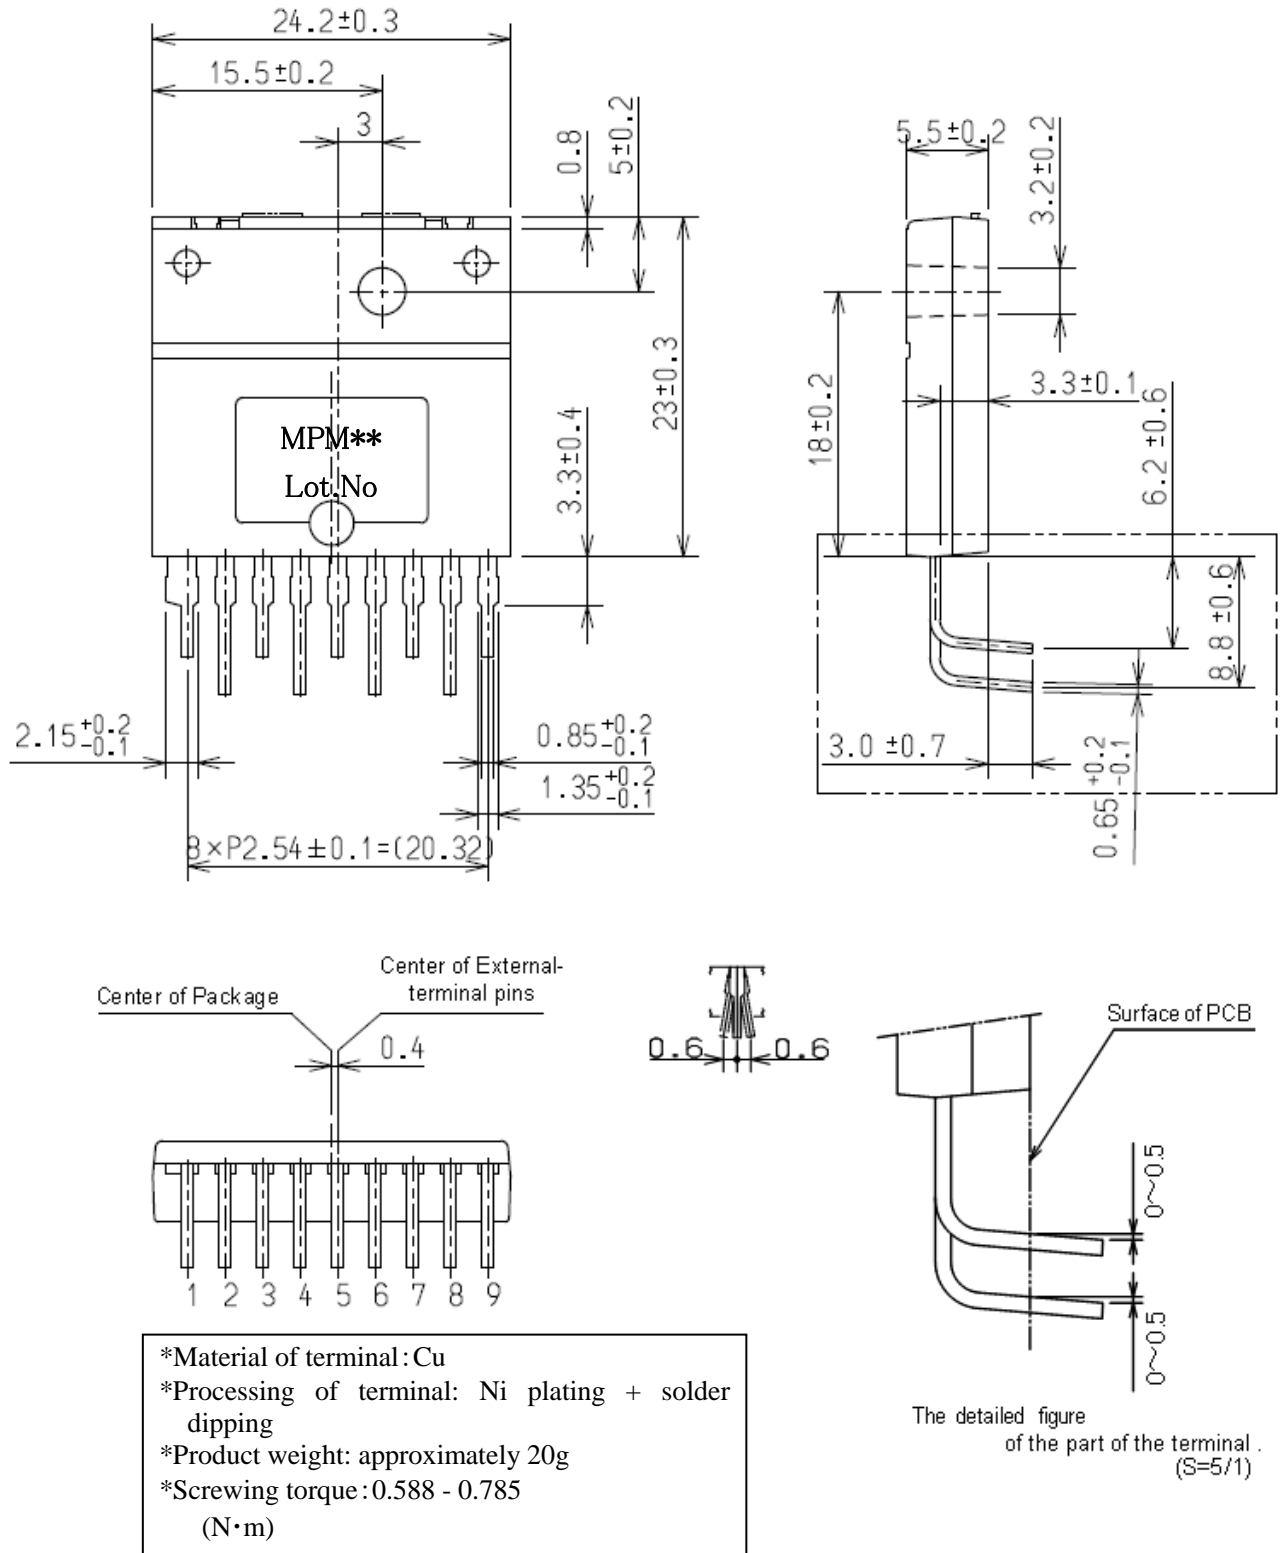

Fig.3
* In the Figure 3 of front view which is common to MPM01-04, product numbers of each model name should be printed in **.